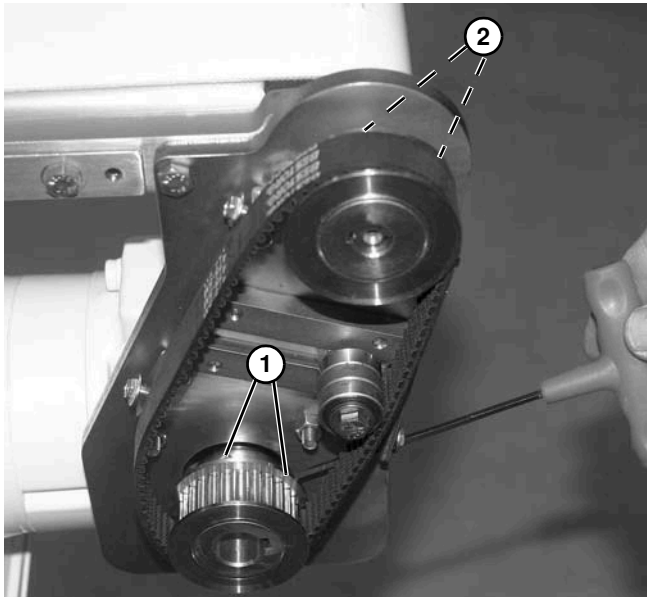
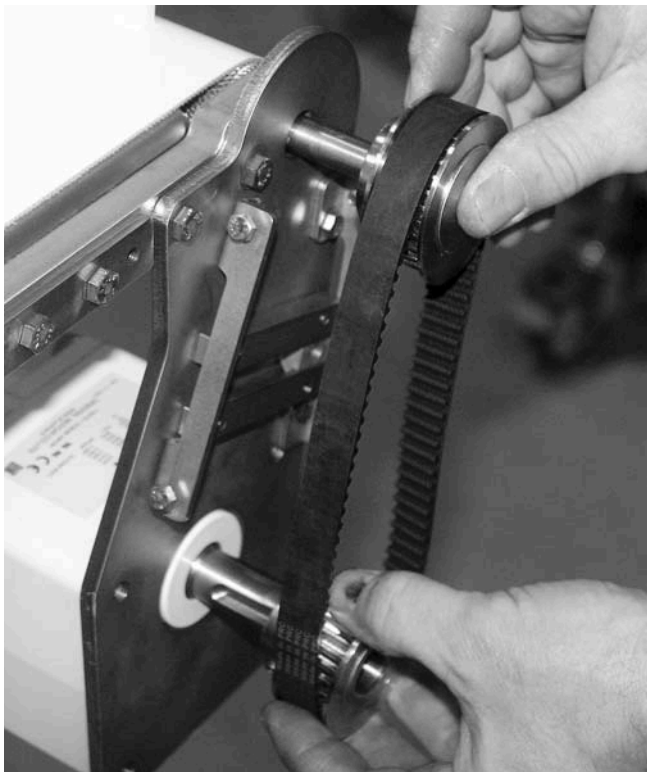

Figure 47
Figure 48
If timing belt does not slide over pulley flange, loosen two drive pulley set screws (**Figure 47, item 1**) and driven pulley set screws (**Figure 47, item 2**), and remove both pulleys with belt (**Figure 48**). Make sure to retain sprocket keys.